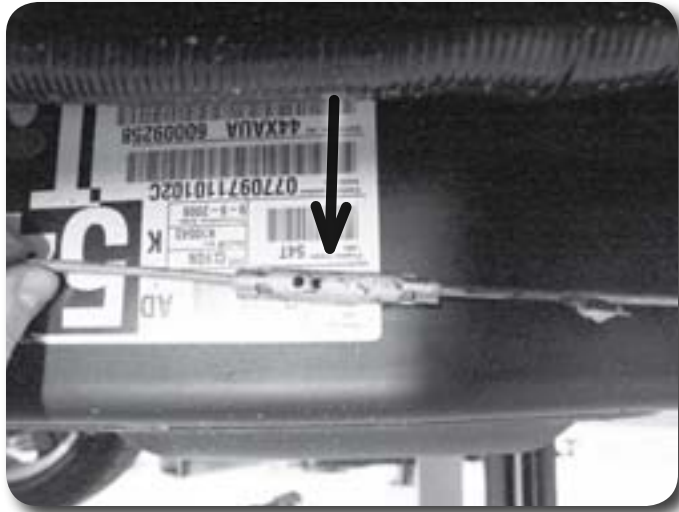

Figure 15
20. Disconnect the front section of the cable from the rear section at the connector just below the driver's side door. There is a small indent in the connector that must be removed to allow that cable to be pulled free Figure 15. Remove the indent with a punch, small rotary grinder or drill.